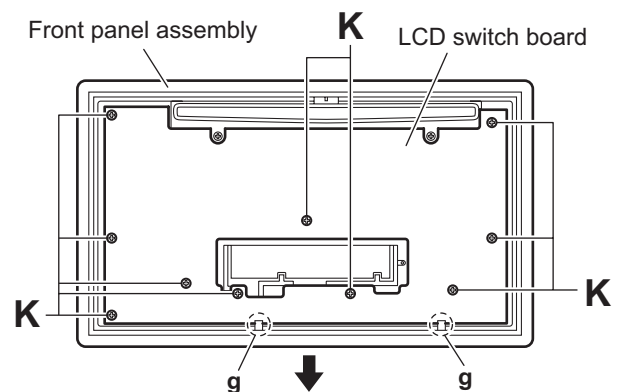

Fig.11
3.1.10 Removing the LCD switch board (See Fig.11)